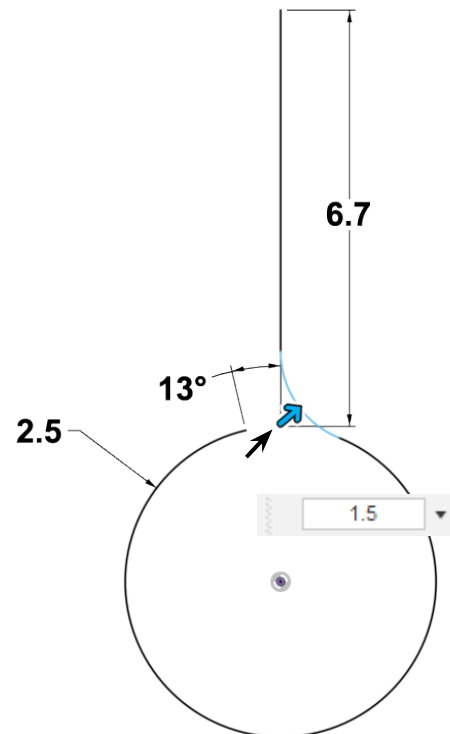

Fig. 6
Step 11. Click **intersection point of line and arc**, **Fig. 6**